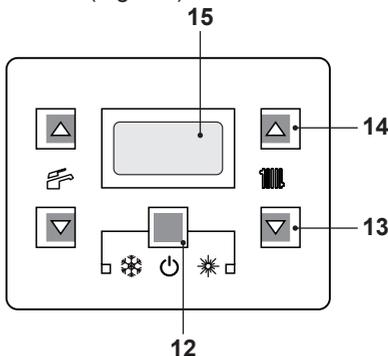
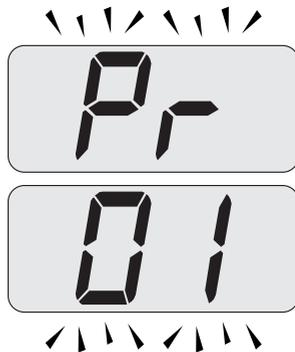

Fig. 8.7
Fig. 8.8
- Enter in "programming mode" by sequentially pressing and holding keys 12 - 13 - 14 (Fig. 8.7) for 10 seconds at the same time until the letters **Pr** that alternate with code 01 are displayed on the LCD display, indicating that "parameter 01", has been activated (Fig. 8.8).
- Press keys 12 and 14 (Fig. 8.7) at the same time until the value of parameter 15 (Fig. 8.10) is displayed on the LCD display.
- By pressing key 12 (Fig. 8.7) confirmation of the inserted value is obtained.
- Press keys 12 and 13 (Fig. 8.7) at the same time to exit without changing the value (return to the parameters list Fig. 8.9).
- Press sequentially keys, 12 - 13 and then 14 (Fig. 8.7) and hold in for 10 seconds to exit the "programming mode".
However, if the ambient temperature is not comfortable, the flow temperature of the heating system can be increased or reduced by $\pm 15^\circ\text{C}$ by pressing keys 13 (re-duce) and 14 (increase) (Fig. 8.7).